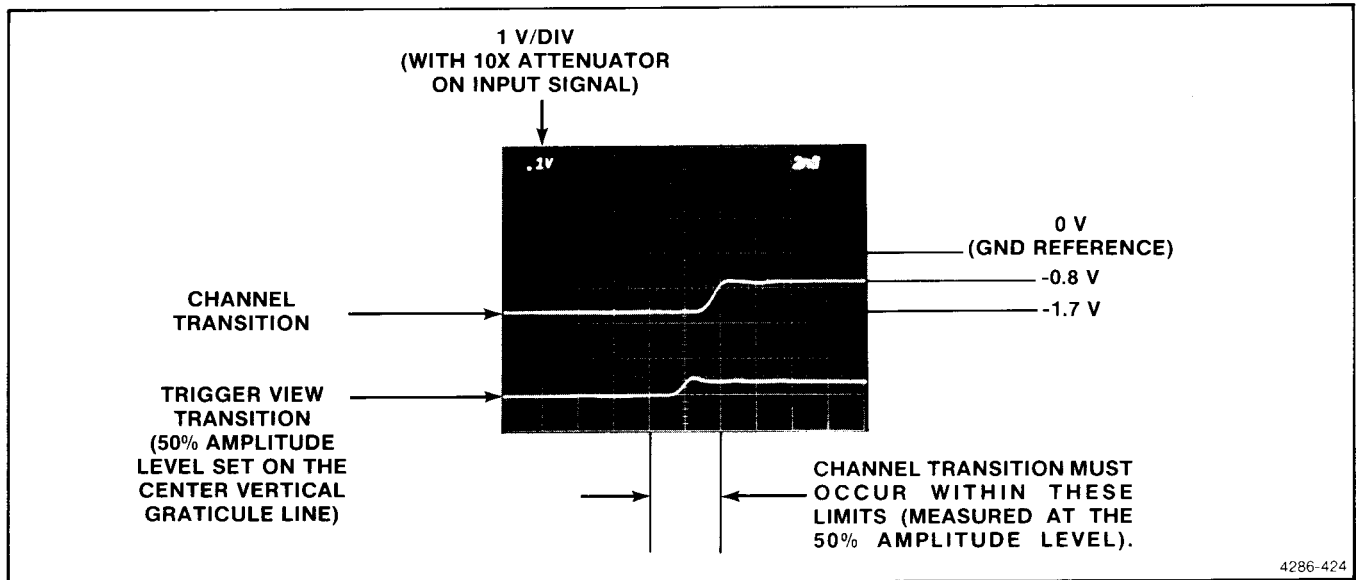

Figure 4-3. Trigger view and channel transition time coincidence.
- Set the HF pulse generator High Level Output control to position the top of the square wave 0.8 division below the GND Reference Level. Refer to Figure 4-3.
- Set the HF pulse generator Low Level Output control to position the bottom of the square wave 1.7 divisions below the GND Reference Level. Refer to Figure 4-3.
- Set the time-base unit Position control to position the 50% amplitude level of the Trigger View Transition to the center vertical graticule line. Refer to Figure 4-3.
- CHECK**—that the channel transition 50% amplitude level is within 1.5 divisions of the 50% amplitude level on the trigger view transition. Refer to Figure 4-3.